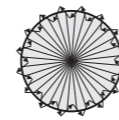

FIG. 15
- 4.1.4 Walk from outside across to the detection pattern until red LED and load turn on for approx. 2sec, then turn off, the next trigger should be 2sec interval (See FIG. 15).